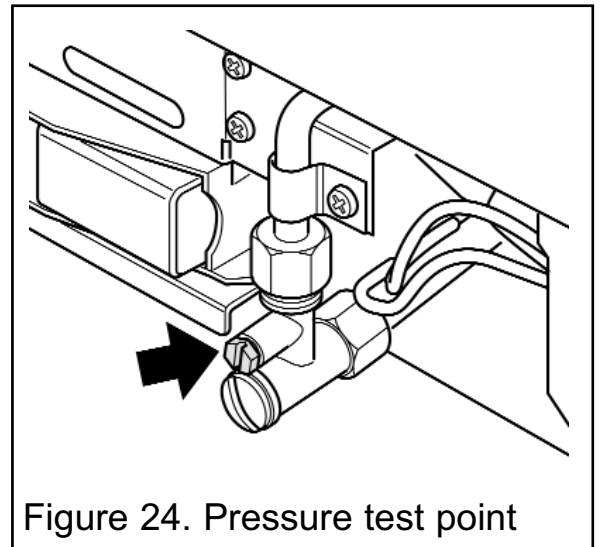

Figure 24. Pressure test point
1. Ensure that the fire is turned OFF before removing the pressure test point sealing screw. Check the inlet pressure by fitting a pressure gauge at the test point. The test point is on the inlet 'T' connector (See figure 24). Check the pressure with the appliance alight and set at maximum output.